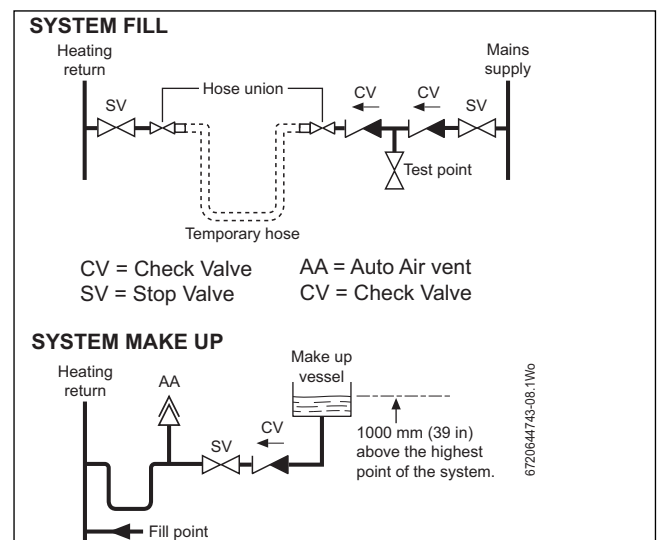

Fig. 5 System fill/System make up
- The CH sealed system must be filled using a WRAS approved filling loop or comply with figure 5 for system fill.